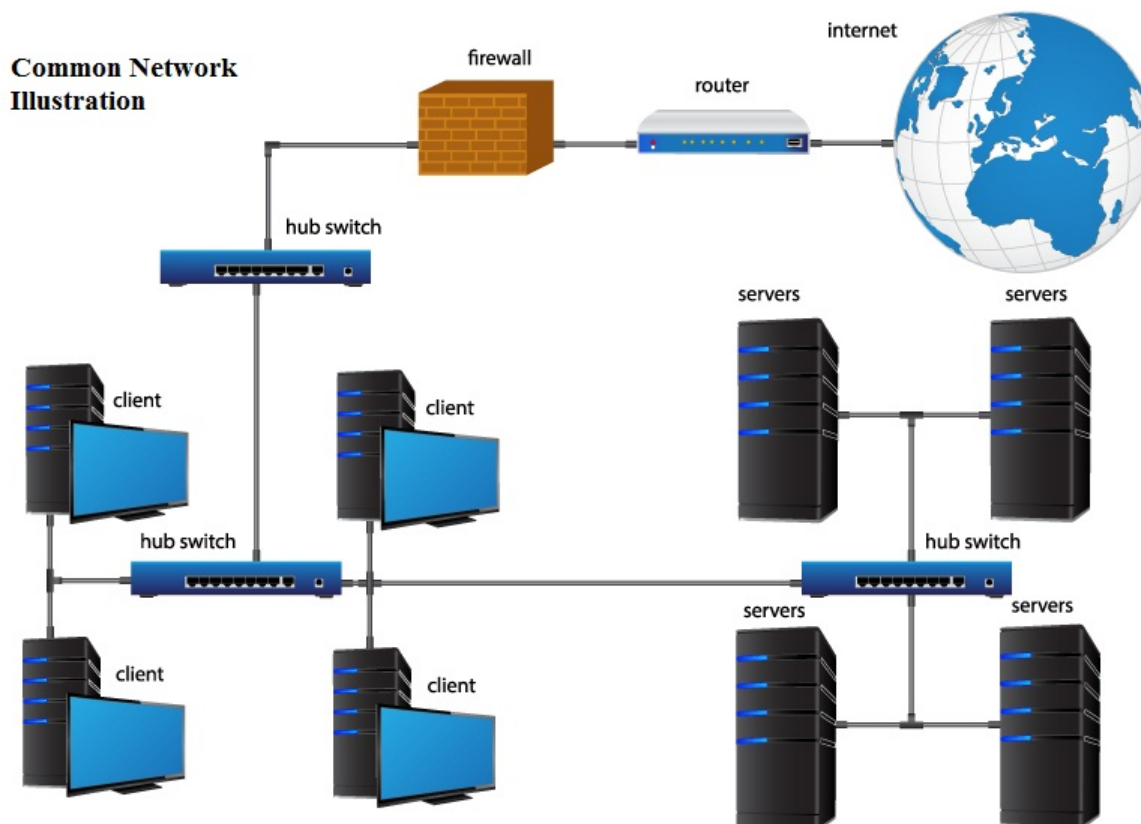

Figure 1–13. Computer network illustration.
(fig. 1–13). A PACS system works across an interconnected computer network, which is defined as (1) two or more objects (digital/electronic) sharing resources and information, or (2) workstations (computers), acquisition devices (terminals), and servers (storage devices) that are interlinked via communication lines for the purpose of sharing data and program resources.